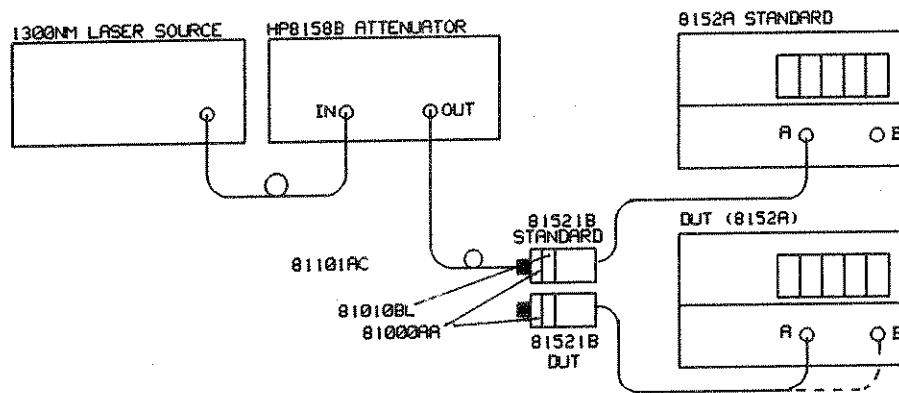

Figure A-2
2. Connect the equipment as shown in Figure A-2. Ensure that the cables to and from the Attenuator are fixed on the table and both optical heads (Standard and DUT) are close together so that minimum cable movement is achieved when connecting the cable to the Standard Head or to the DUT Head.